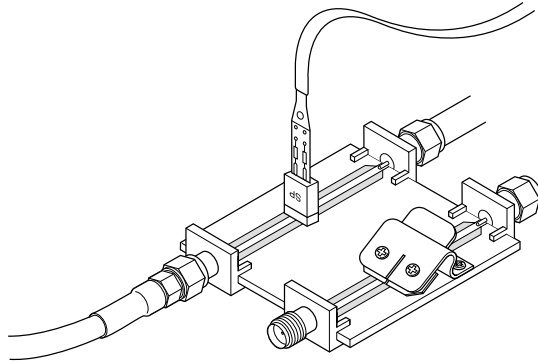

Figure 8-6. SP to Characterization Fixture Connection
The SP lead should plug on the square pins located on the fixture. Figure 8-6.
- f. Disconnect the BNC to Banana Plug Adapter from the DMM and reconnect the Precision 50 Ω Terminator to the DMM input. See figure 8-6.